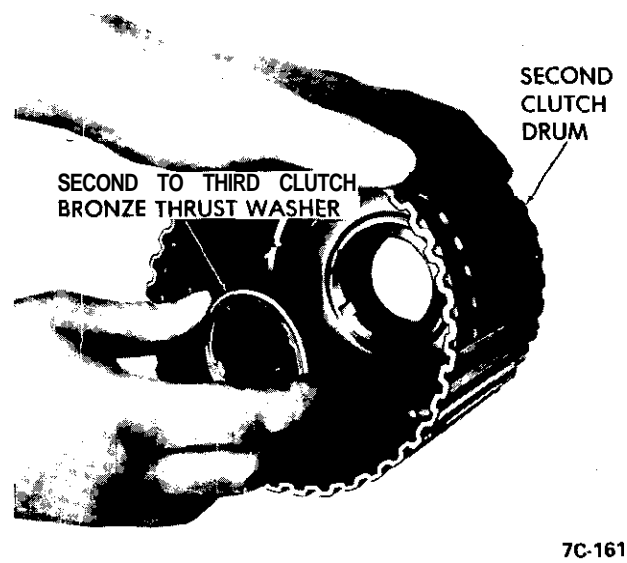

Figure 7C-161
5. Remove second clutch steel and composition plates. The plates should be kept in the same sequence as they were installed in the clutch. See Figure 7C-160.